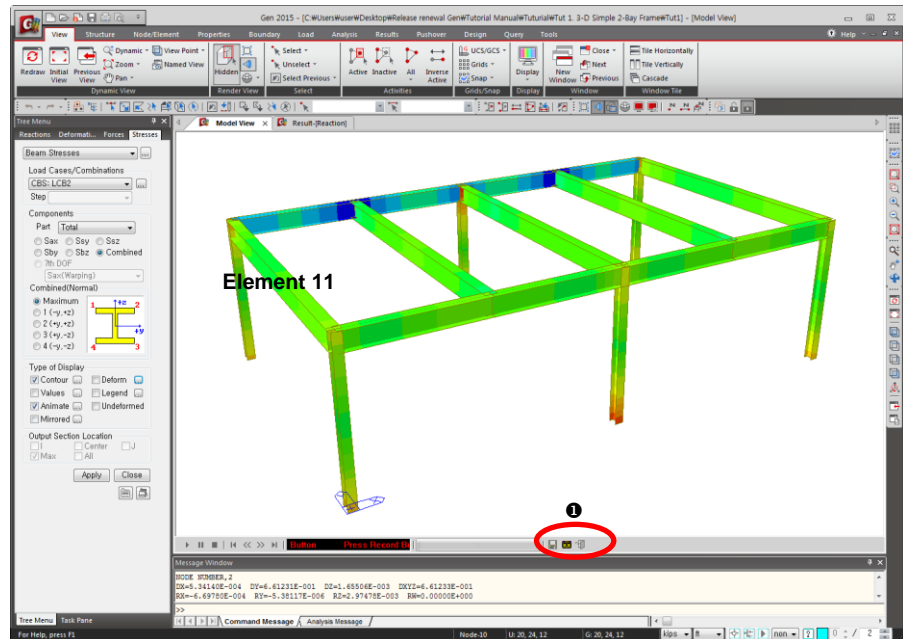

Figure 1.38 Animation Window
7. Click  **Record** as shown in Fig.1.38–1.
Once the above procedure is completed, wait a while. The animation reflecting the effects of combined stresses and deformed shapes appears on the screen as shown in Fig.1.38.
1. Click  **Close** shown in Fig.1.38–❶.
4. Click the **Element Number** field once, then select element **11** in the **Model View** window (Fig.1.38)